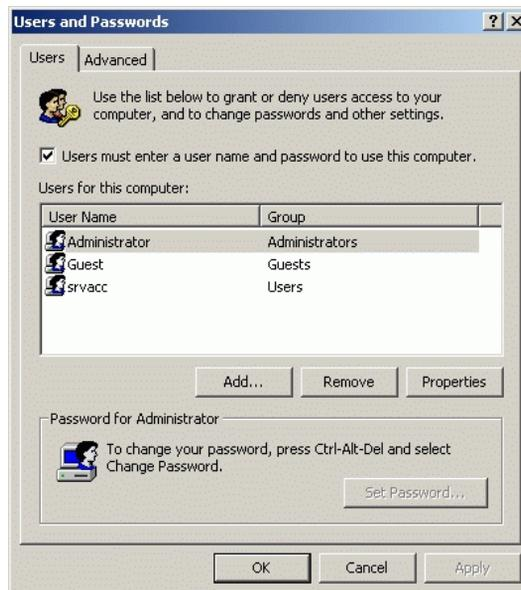

Figure 19 Users and Passwords Dialog Box
2. Double-click the *Users and Passwords* icon. The *Users and Passwords* dialog box displays (Figure 19).